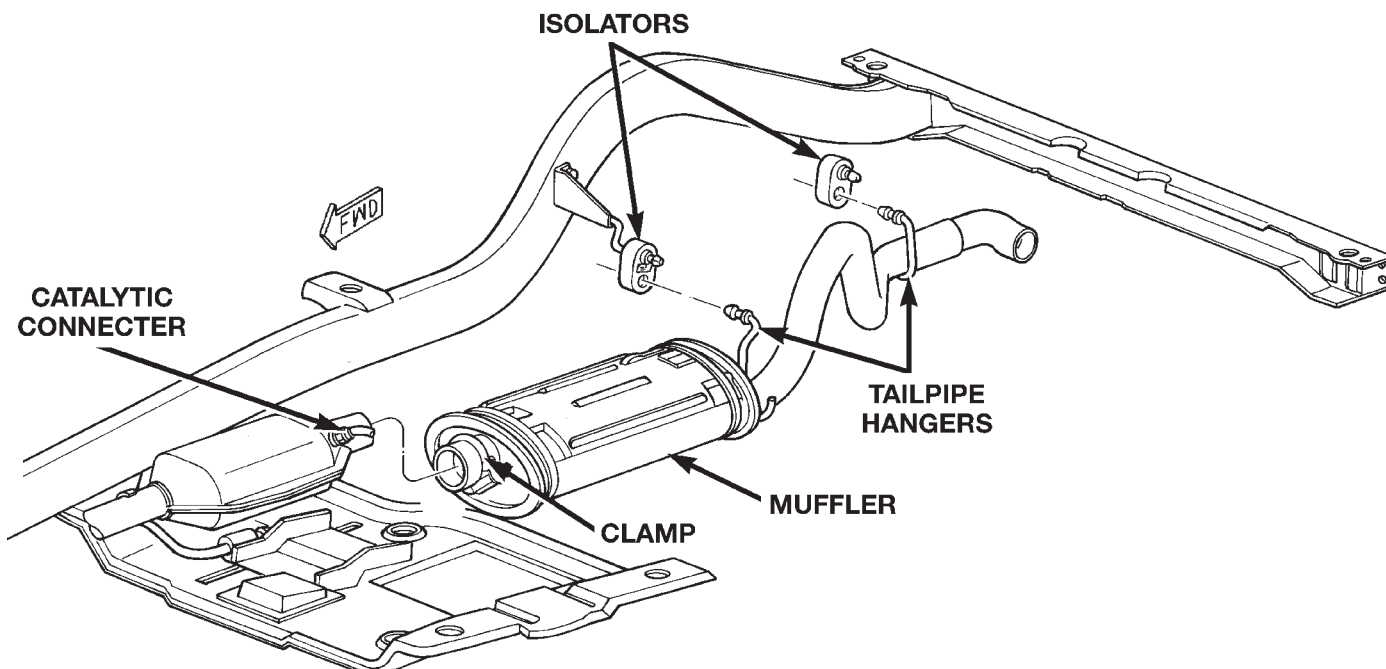

Fig. 6 Muffler and Tailpipe Assembly
(3) Remove the tailpipe hangers from the insulators (Fig. 6).
(4) Heat the catalytic converter-to-muffler connection with an oxyacetylene torch until the metal becomes cherry red.
(5) While the metal is still cherry red, twist the exhaust tailpipe/muffler assembly back and forth to separate it from the catalytic converter.